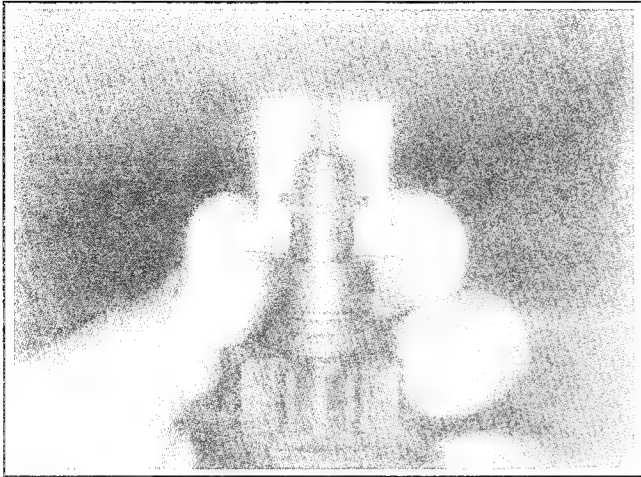

Figure 8-12. Assembling Inner Half of Tool Around Armature Shaft and Retaining Ring.
4. Holding the spring retainer in the retracted position, assemble the inner halves of the removal tool around the armature shaft with the retaining ring in the inner groove (see Figure 8-12). Slide the collar over the inner halves to hold them in position.